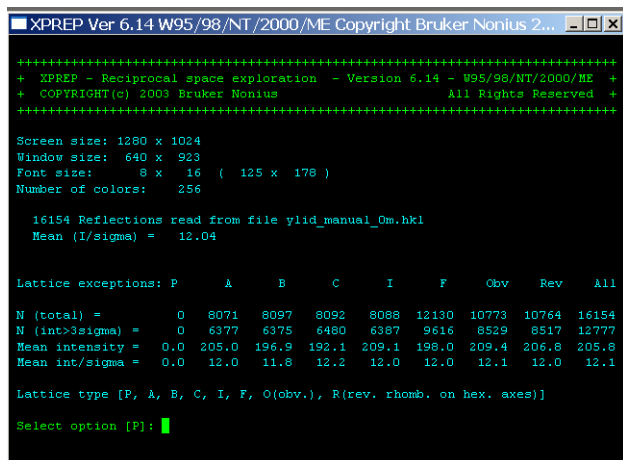

Figure 8.2 - Lattice statistics
1. XPREP evaluates the data and looks at the mean intensities and the mean int/sigma. Since these are large for all groups except P, XPREP suggests that the lattice is P (see Figure 8.2). Press Enter to accept.